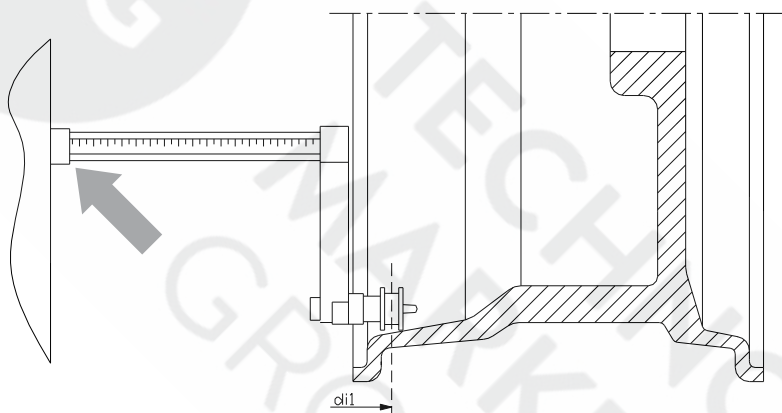

Figure F3.5 - Manual Acquisition of the internal plane distance in the ALS2 Program Type
6. Extract the distance sensor and place it on the plane chosen for the external weight as shown in Figure F3.5;